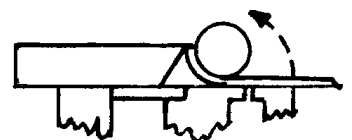

FIGURE 6
3. Wrap the workpiece around the bar with the bending beam as in straight bending. Reposition the workpiece as shown in Figure 6 and continue to wrap until the desired roll is reached. The number of wrapping operations will vary with the diameter of the bar and the material being bent.